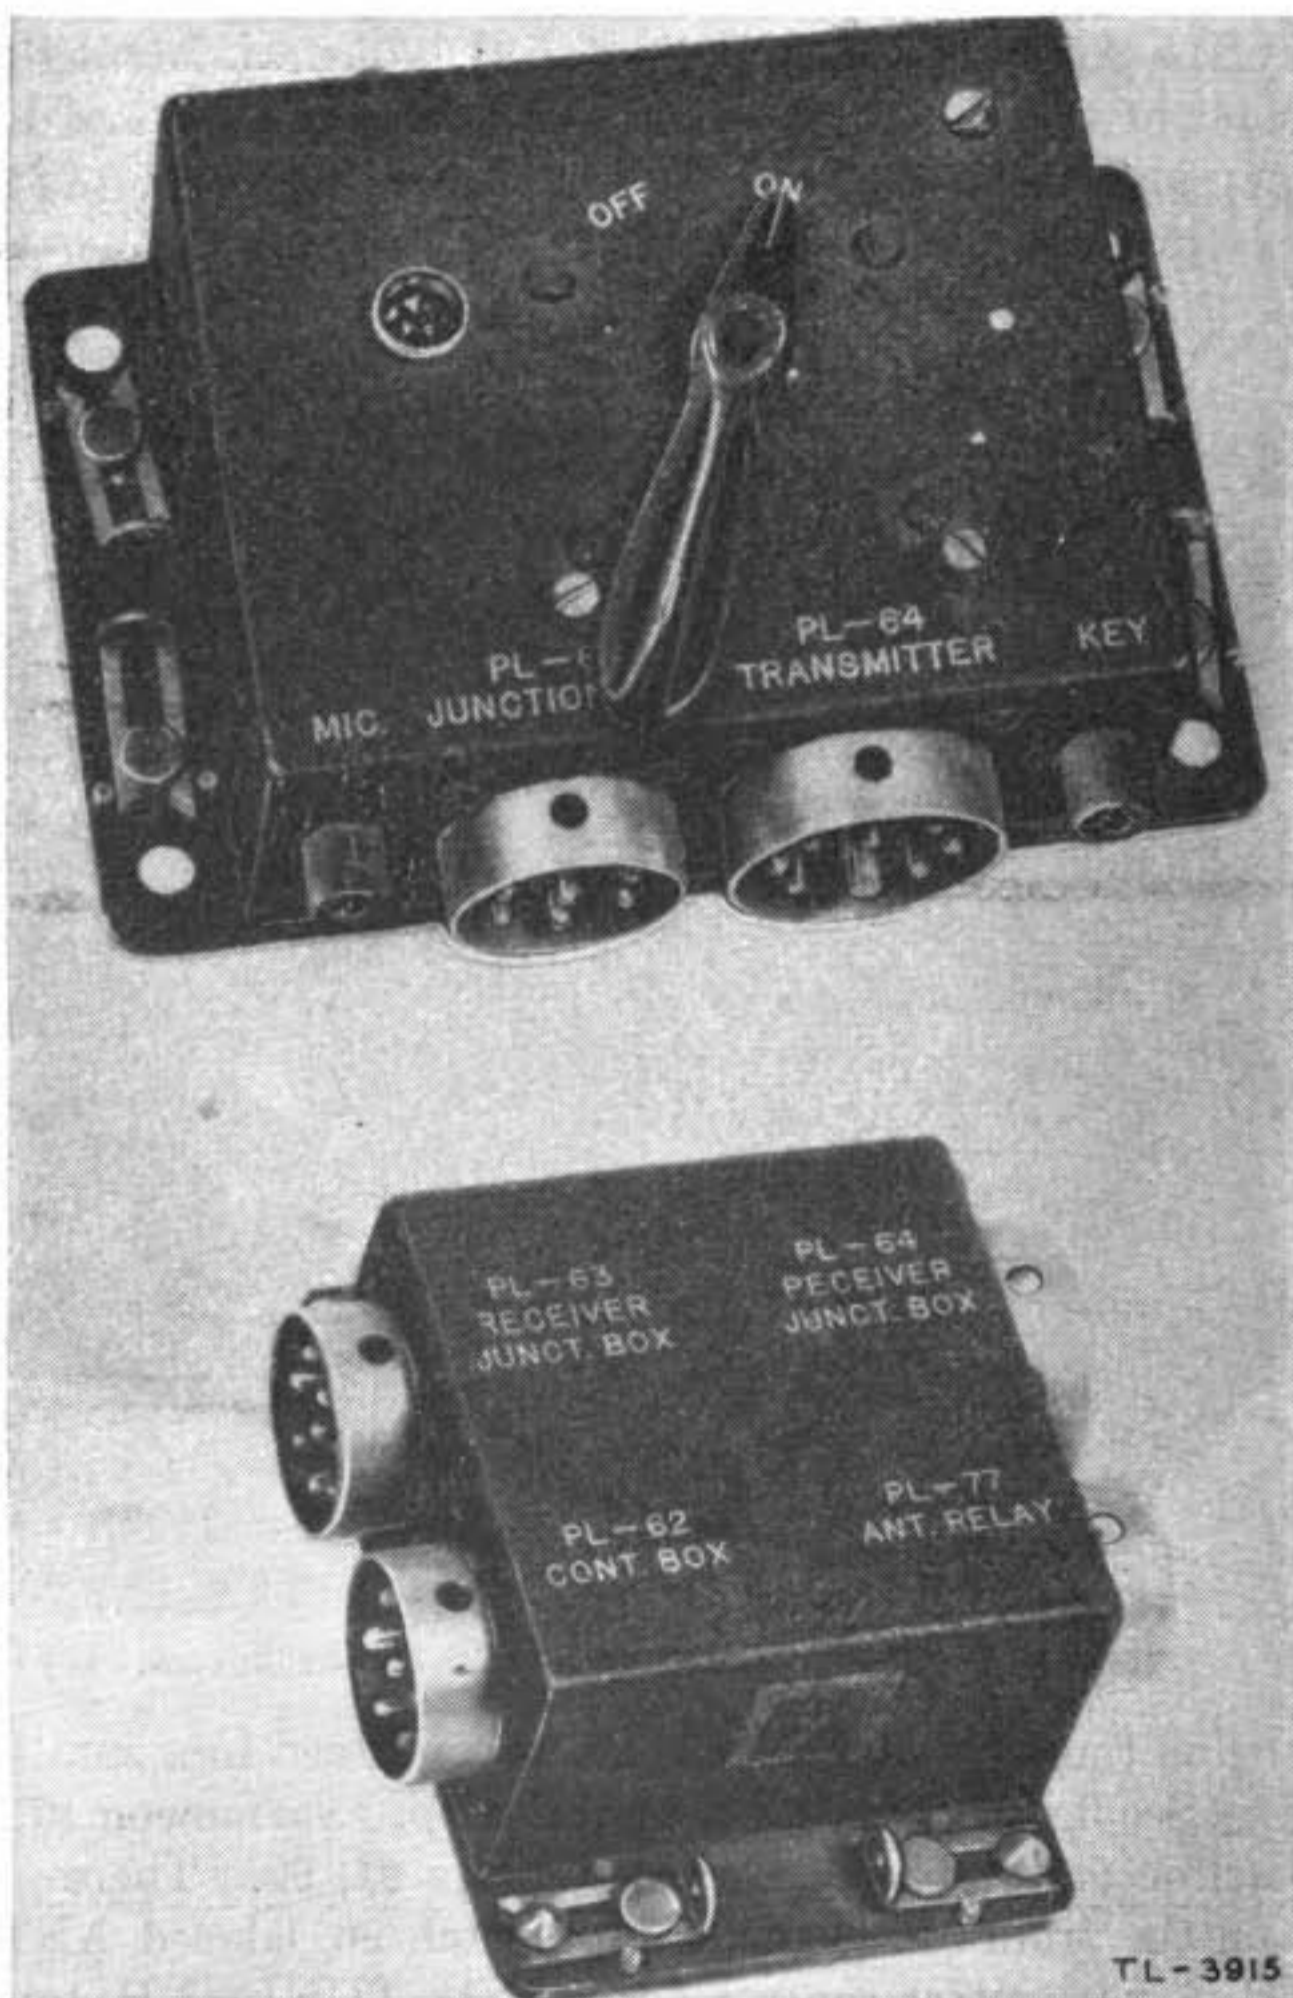

FIGURE 28.—Radio control box BC-AA-192 and junction box TM-AA-160.
50. **Radio control box BC-AA-192.**—The control box (fig. 28) contains an OFF ON switch 73, a key jack 74, a microphone jack 75, and sockets 71 and 72 for plugs PL-62 and PL-64 for cording. Some models also include a pilot light and an a-c d-c switch. The box is attached to a type FT-112 mounting by four snap slide catches.